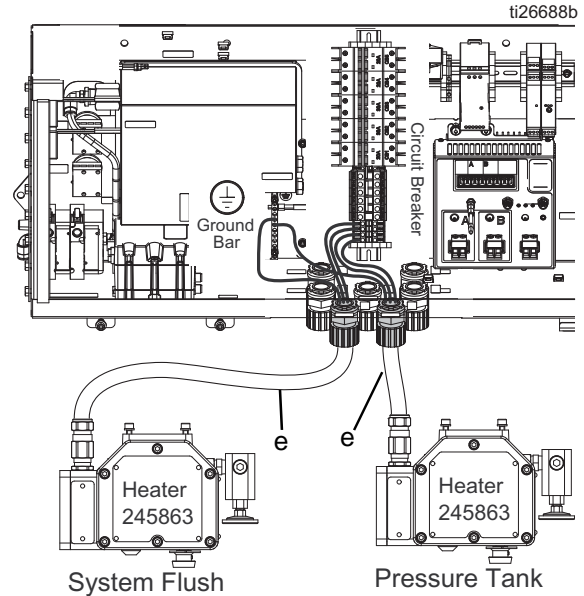

FIG. 17
- For Hazardous Location Models**, Connect heater power cables (e) for the tanks heater the flush heater to the terminal blocks. See FIG. 17.